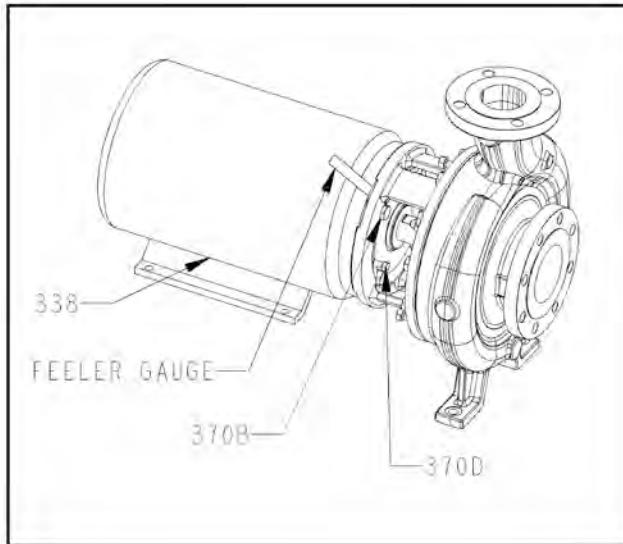

Figure 28:
2. Begin tightening the jacking bolts (370D) evenly, pushing the motor (338) away from the pump until the impeller contacts the cover. Turn shaft to ensure contact is made.
3. Use a feeler gauge to measure the gap between the motor (338) face and the frame adapter (Fig. 28).